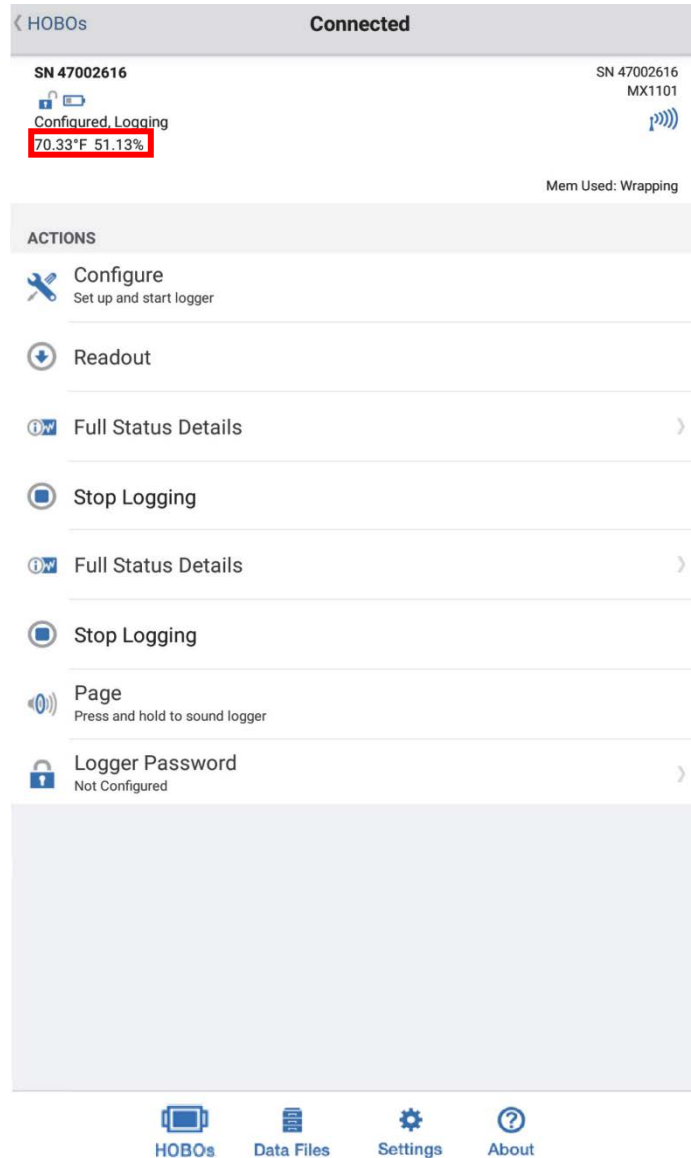

Figure A.6.17: The HOBOMobile “Connected” Screen. The temperature and relative humidity percentage at the current date and time is displayed in the red box.
4. On the “Connected” screen, right under the words “Configured, Logging”, you will see the temperature and relative humidity percentage readouts of the logger at the current date and time as shown on Figure A.6.17. Make sure that these readouts are consistent with your expectations. If not, check the placement of the MX1101 Data Logger.